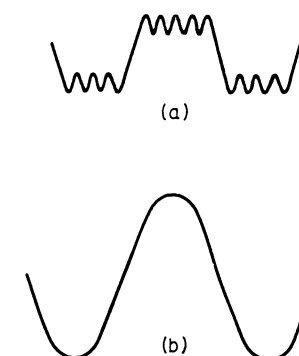

Fig. 25
2. When the reproduced wave forms have the shape shown in Fig. 25 (a) irrespective of the position of the variable resistor, it shows that the FET is not controlled properly and something is wrong in the VR11, X207, D201, D202, VR205 or X209 circuit.
3. When the reproduced wave form becomes a sine wave (Fig. 25 (b)) irrespective of the volume position, FET X209 may be regarded as being open.
4. Since the rectangular waves at PLL IC pin (4) and pin (5) and the triangle wave at pin (9) are oscillation signals from VCO, they are the unmodulated 30 kHz signals when no input is applied. When these waves are not formed, the IC may be defective. However, the wave forms will be out of shape if the measuring system has a large capacity.